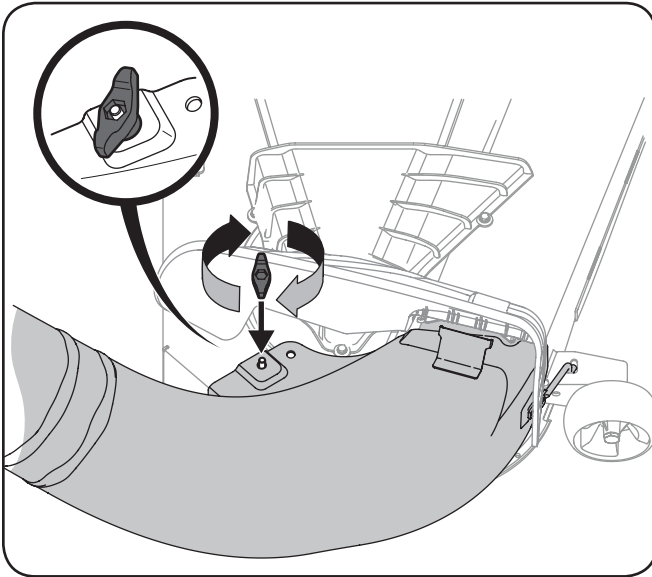

Figure 5-20
- Secure the discharge chute elbow to the cutting deck using a (720-04122) wing knob included with the bagger kit. Refer to Figure 5-20.